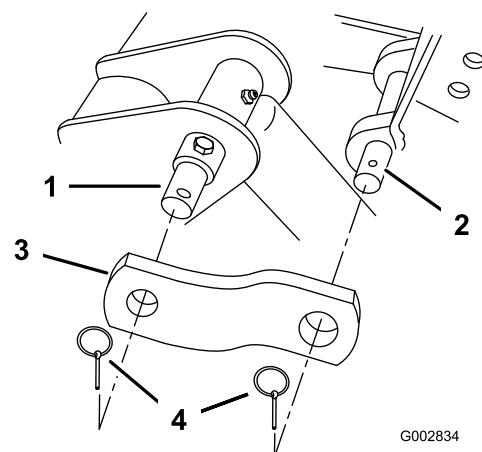

Figure 3
3. Tilt the backhoe back until the backhoe link pin is approximately 6 inches (15 cm) from the tilt cylinder pin (Figure 3).
- Slide a link on one end of the tilt cylinder pin and the backhoe link pin and secure it with two lynch pins (Figure 3).
2. Remove the lynch pins securing the links and remove the links (Figure 3).